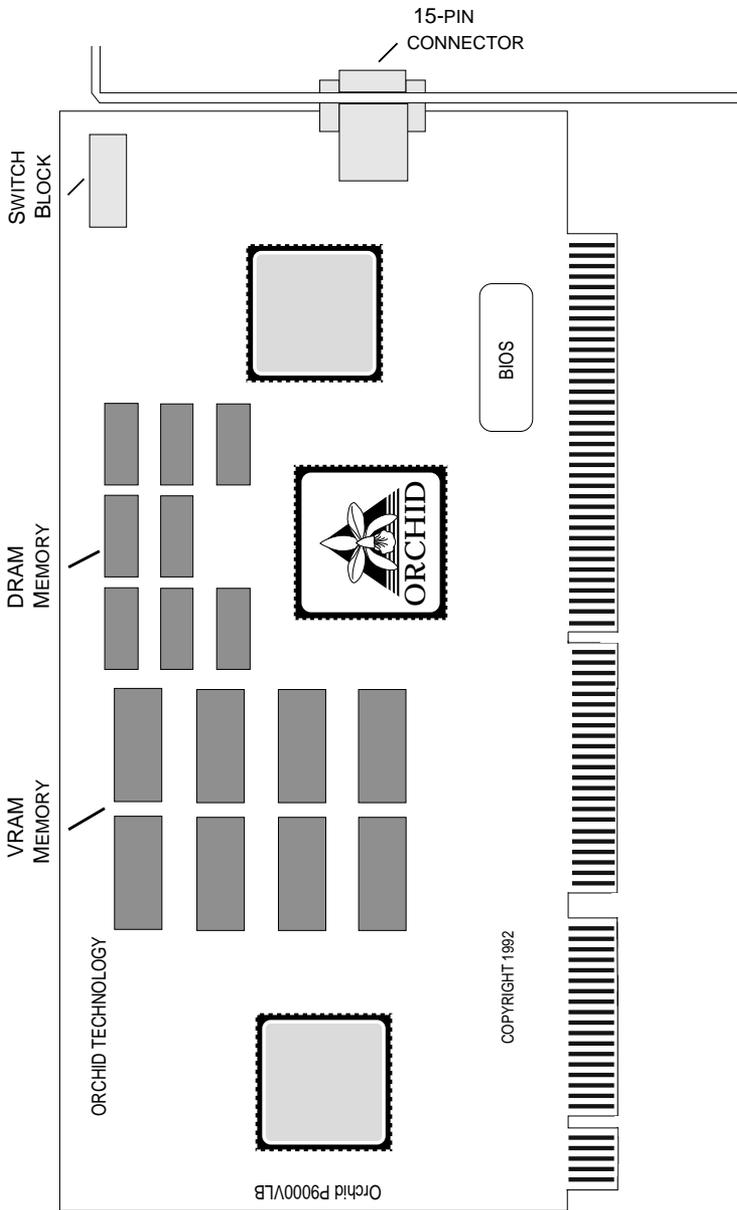

Figure 1.1: Orchid P9000/VLB
The following table list the switch settings used by the Orchid P9000/VLB. For location of the switch settings, see Figure 1.1.
6. Connect your monitor cable to the 15-pin monitor connector on the Orchid P9000/VLB (see Figures 1.1 and 1.2).